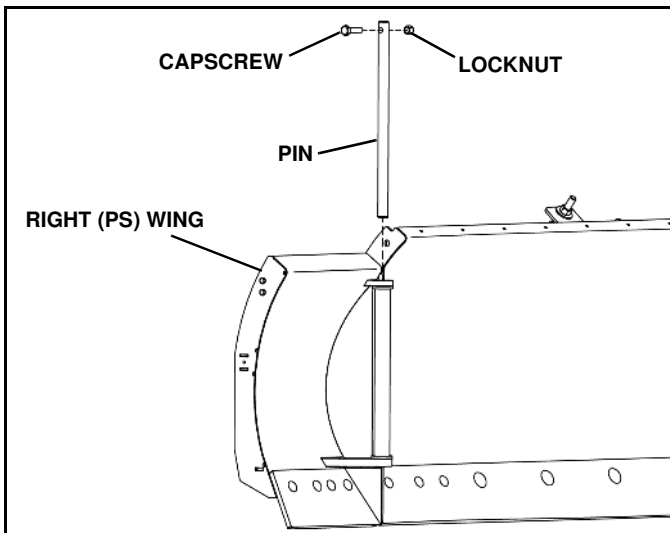

Figure 2-4
1. Align right wing with blade. Coat pin with grease and insert completely through blade and wing. Install a 1/2"-13 x 1-1/2" hex head capscrew and 1/2"-13 locknut to secure the pin. Snug the bolt, but do not torque. (See Figure 2-4)